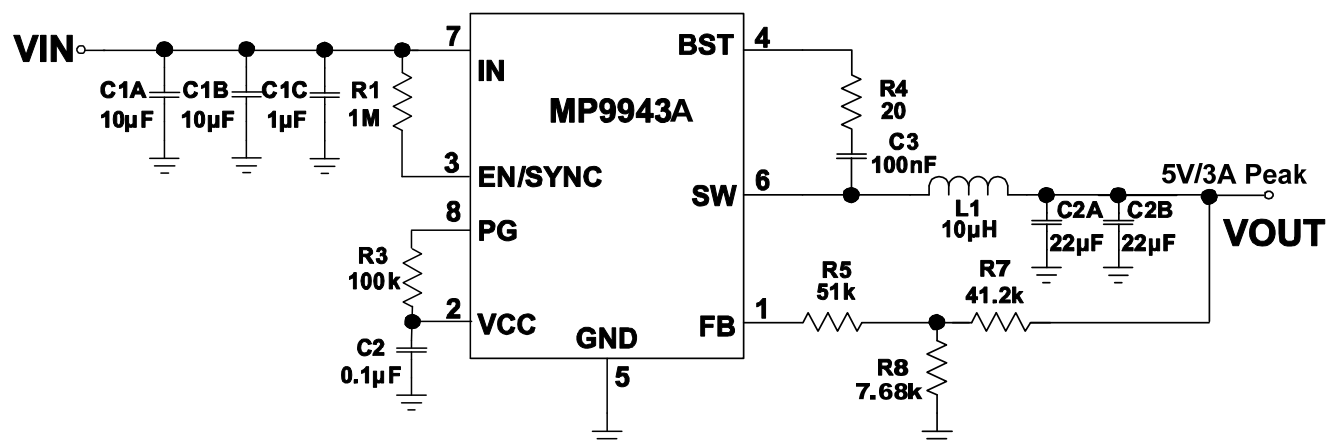

Figure 8: 12V_{IN}, 5V/3A Peak Output
- 8) The recommended layout is based on the Figure 8 Typical Application circuit on page 18.
The detailed application schematic is shown in Figure 8. The typical performance and circuit waveforms have been shown in the Typical Performance Characteristics section. For more device applications, please refer to the related Evaluation Board Datasheets.